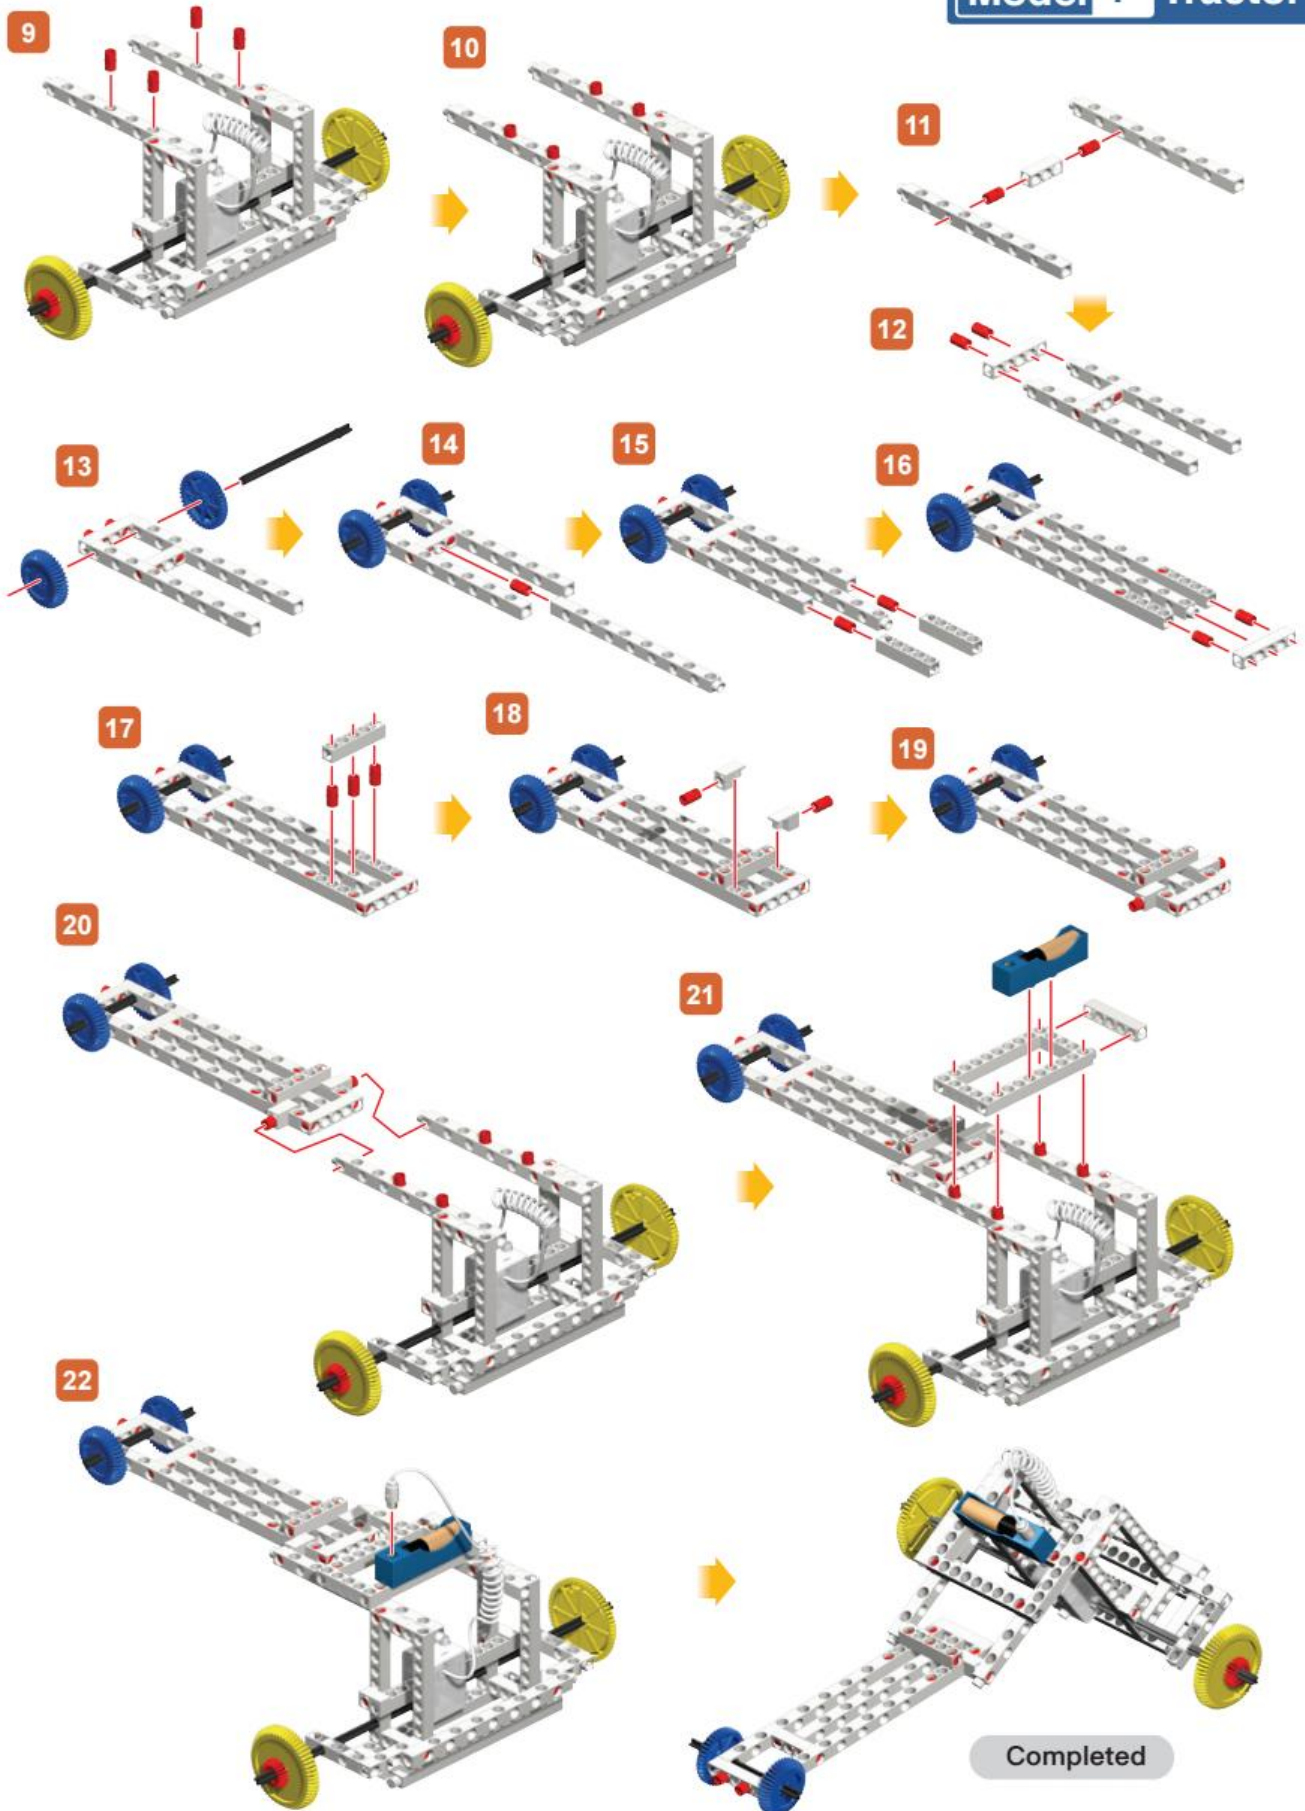

**Fig. 63**
2. Match the positive pole of the battery to the positive pole of the blue battery holder, and so does the negative pole and then insert the battery as Fig.63 shows.